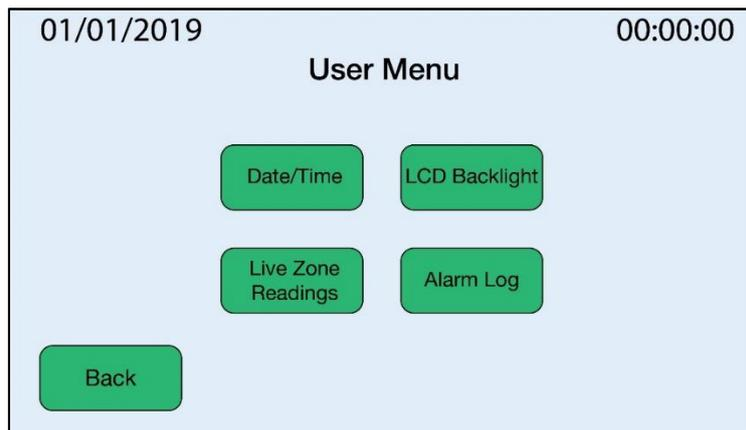

Figure 31: EMS User Menu
3. The **User Menu** will display (**Figure 31**).